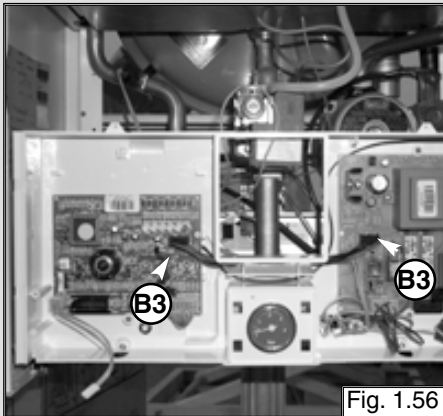

Fig. 1.56
6. Disconnect the connection cable "B3" (see fig. 1.56);